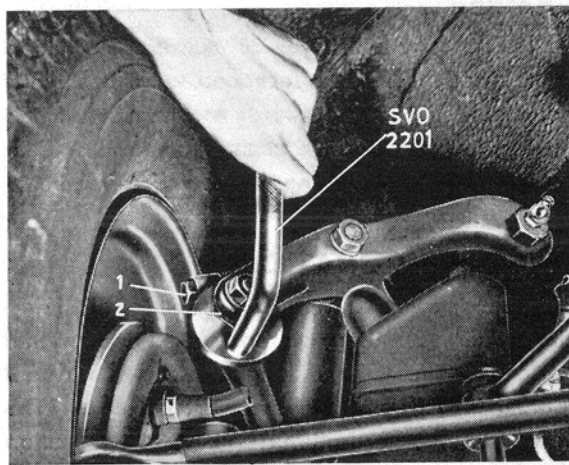

Fig. 5. Adjusting caster and camber
Caster should be $-3/4^\circ$ - $+1/4^\circ$. This is adjusted by loosening the clamp bolt (1, Fig. 5) and then turning the eccentric bush (2). Use wrench SVO 1411 if the bush is early production with a width across flats of 28.5 mm (1 1/8") and wrench SVO 2201 if the bush is late production with width across flats of 34.3 mm (1 11/32"). One complete turn alters the angle by $1/2^\circ$.
After the caster has been checked, adjust the camber. This should be -14° - $+1/2^{\circ}$. It is adjusted by loosening the clamp bolt and turning the eccentric with wrench SVO 1411 or SVO 2201, see Fig. 5. Altering the camber also means a slight alteration of the caster, but this is negligible.